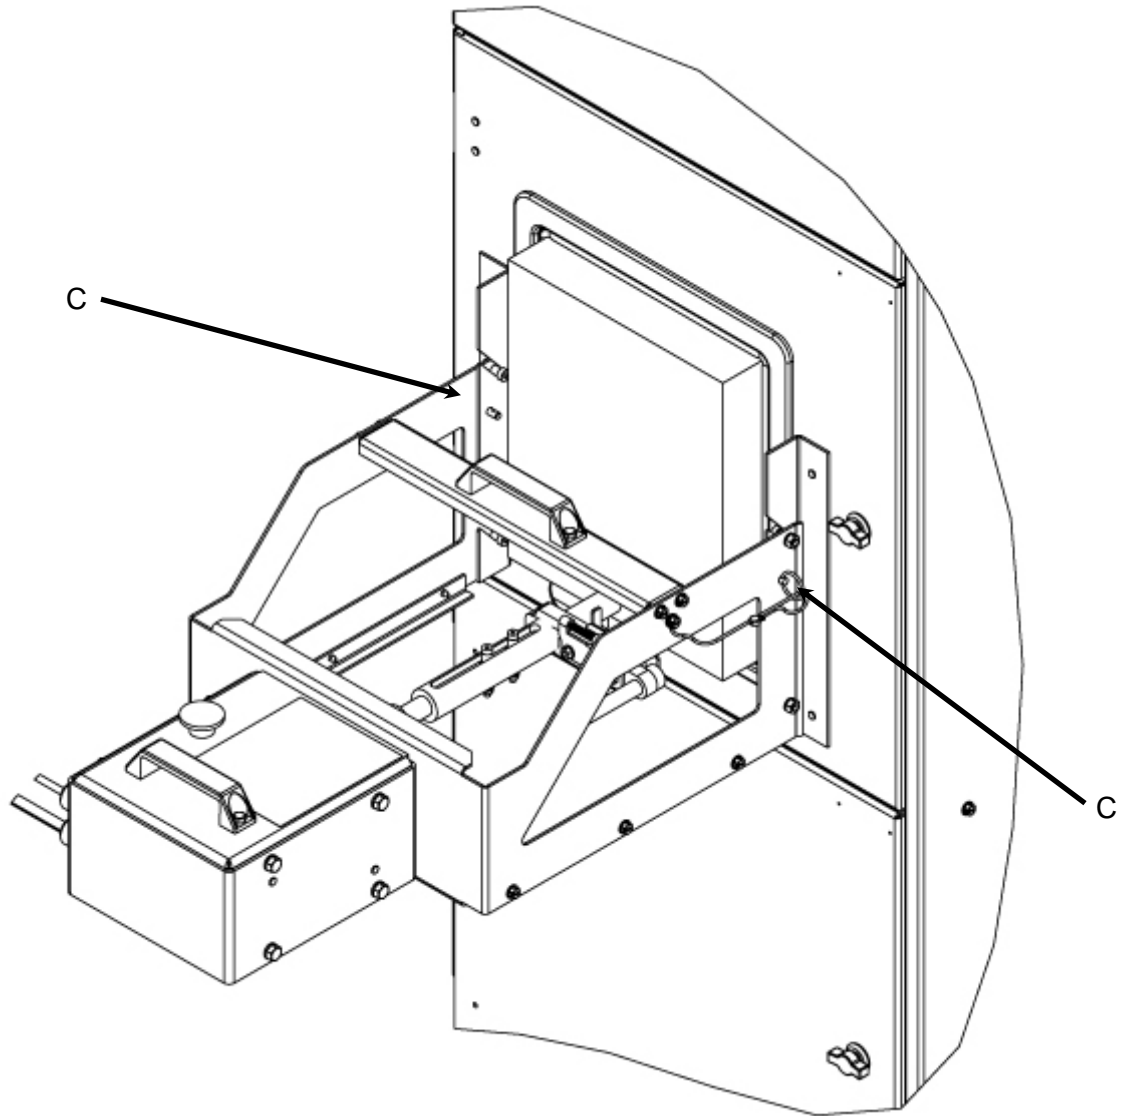

Fig. 4.2
3. Remove the two Keeper Pins from the Frame Retaining Holes on each side of the frame. See Fig.4.2, item C.